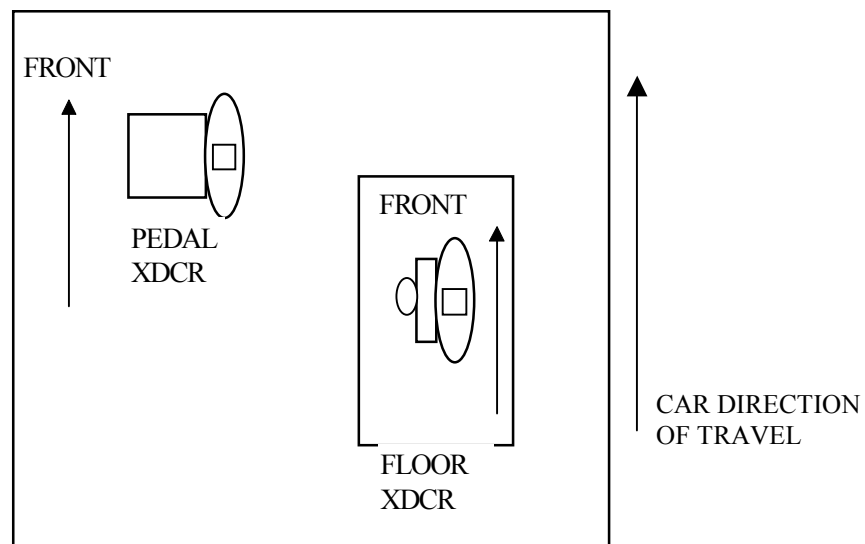

Figure 1
2. Place the Floor transducer on a stable area of the car with the front line marking facing toward the front of the car. Align the transducer so that the axis of the transducer is exactly parallel to the centerline of the car. See figure 1. Rotate the transducer so that the number faces up.